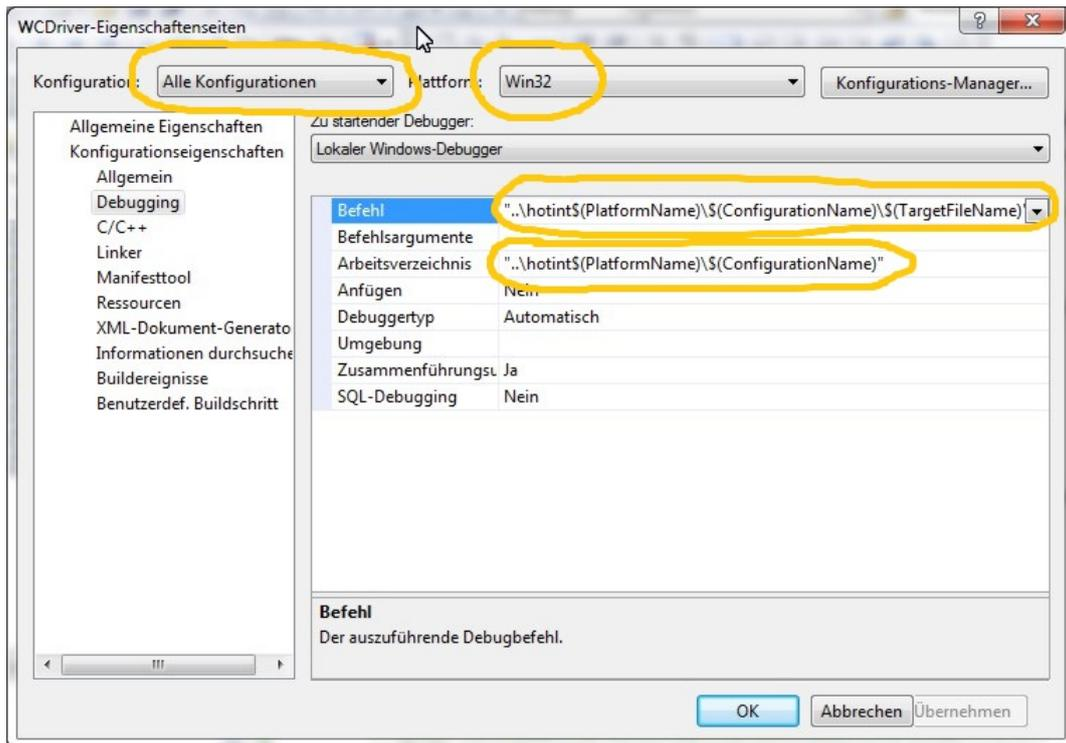

Figure 3.1: Set “Arbeitsverzeichnis” and “Befehl” for ALL CONFIGURATIONS in WCDriver
5. Rightclick the project WCDriver, click Eigenschaften, and make sure, the proper working directory path is set (see figure 3.1) for all configurations: